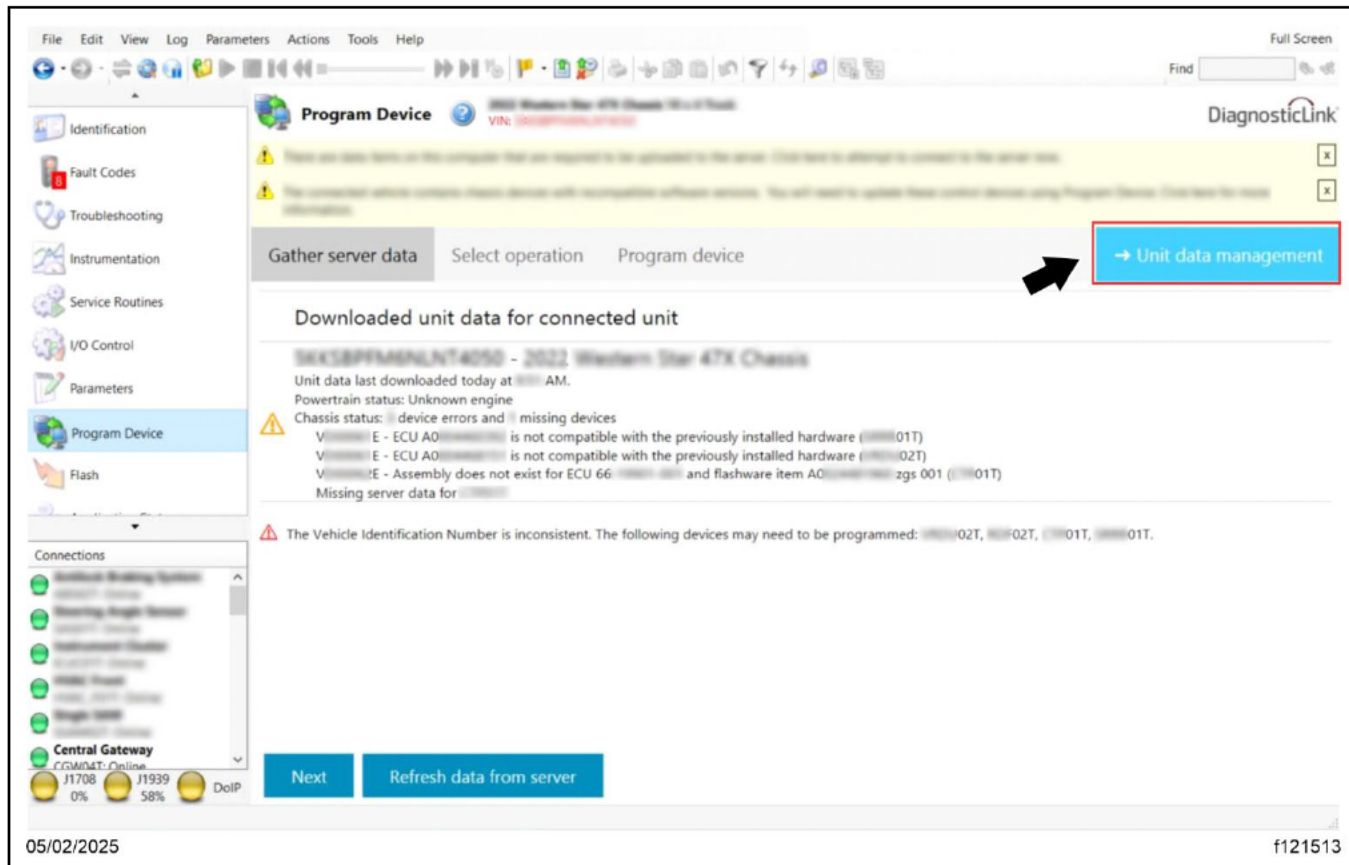

Fig. 11, Selecting Unit Data Management
15. Select 'Unit data management' in the upper-right corner. See Fig. 11.